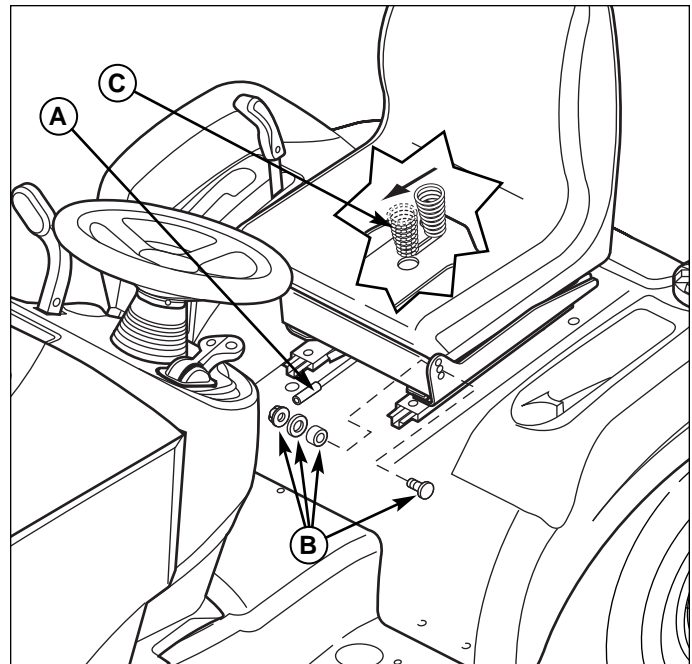

Figure 30. Seat Adjustment
The pitch of the seat can be adjusted to one of three positions. To adjust, remove the carriage bolts, spacers, washers, and nuts (B, Figure 30) from the hinge and reinstall them in the desired holes.
The seat can also be adjusted forward and back. Move the lever (A, Figure 30), position the seat as desired, and release the lever to lock the seat into position.
The seat springs (C, Figure 30) can be adjusted to provide a softer or firmer ride. Tilt the seat forward and slide the spring assembly (C) forward for a softer ride, and back for a firmer ride.